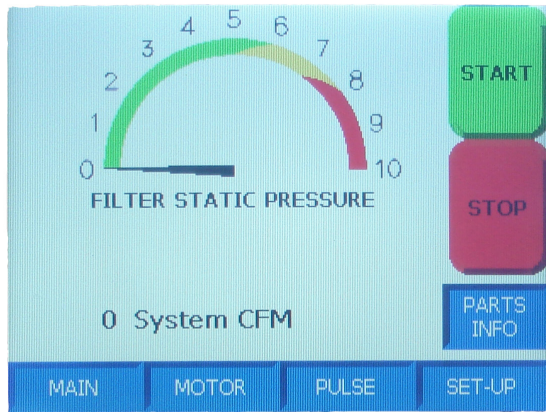

FIG 1
1. Set-up the Intelli-Touch controls at the touch screen. The system should be powered up and the screen should look similar to FIG 1.
- i. On the touchscreen main display push the button labeled “SET-UP”. FIG 1.